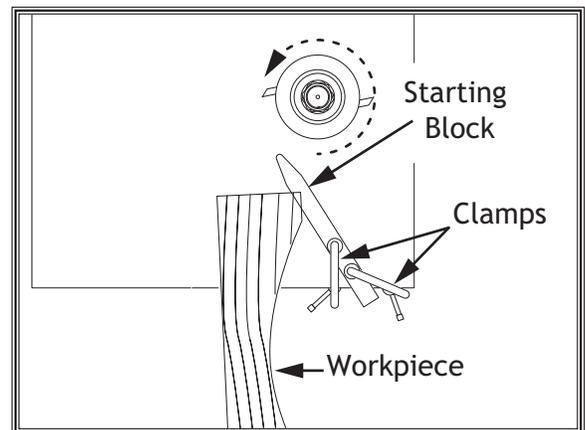

Figure 8. Typical setup for performing irregular shaping.
6. Insert starting pin into table surface; choose appropriate hole position. See owner's manual for location. If a starting pin is not available, use a starting block, as shown in **Figure 8**.
8. Use some type of hold-down(s), fixtures and guards when performing freehand work (see **Figure 8**).